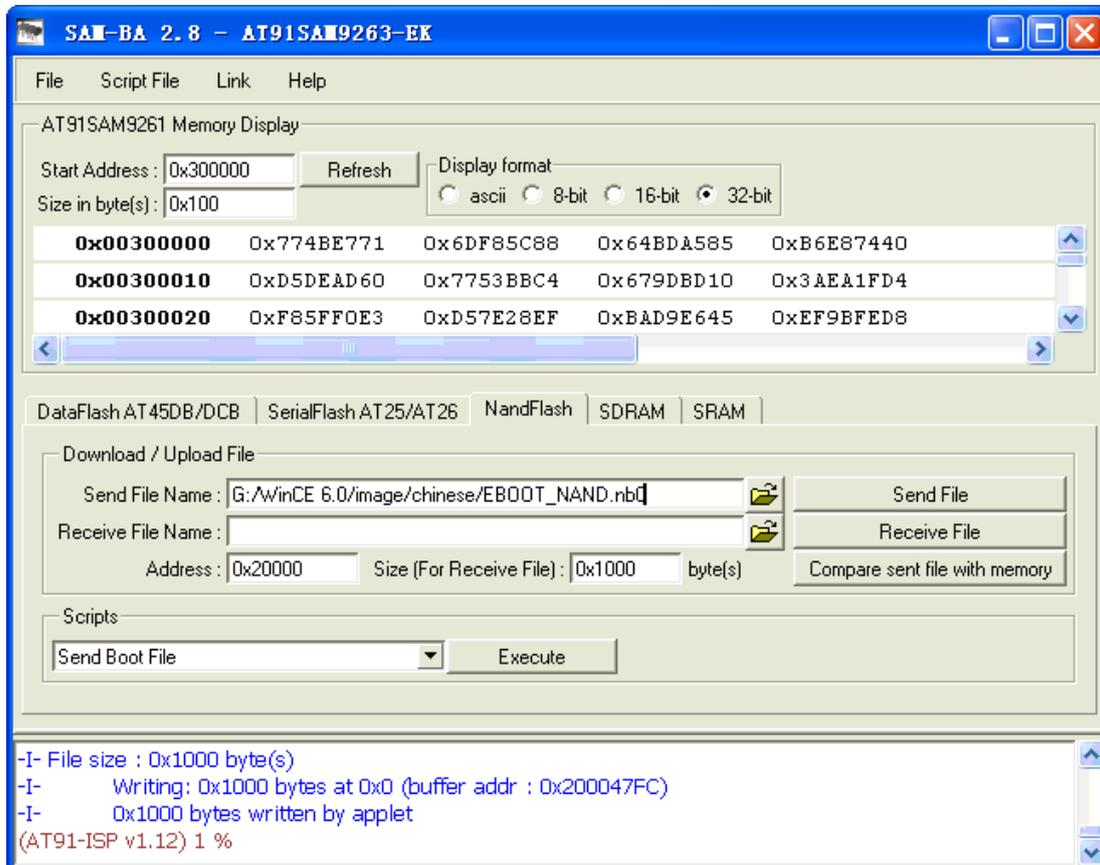

Figure 3.23
- As shown in Figure 3.23, enter address 0x2000 in the Address: field in Download/Upload